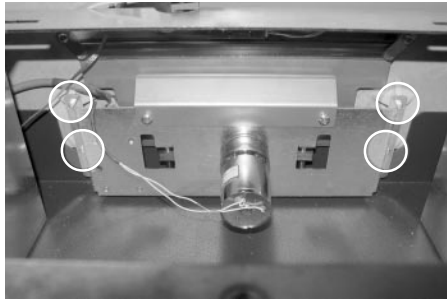

Figure 3-46. Loosen the four screws (highlighted in white circles) that hold the shutter assembly to the control panel.
8. Refer to Figure 3-46. Remove the four screws that secure the shutter assembly to the control panel.
2. Refer to Figure 3-46. Align the four mounting holes on the shutter assembly to the four mounting post on the control panel. Secure the shutter